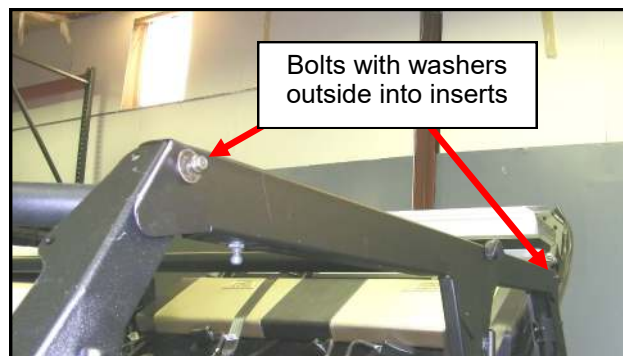

Fig. 7.1 Header placement
- 7.1** Per figure 7.1, place the left Header on top of the upper left ROPS and align the holes in the upper flange of the panel to the holes in the ROPS. Insert a 1/4-20 bolt with washer into the threaded inserts in the A-Pillar and C-pillar and leave loose. Repeat for the right side.